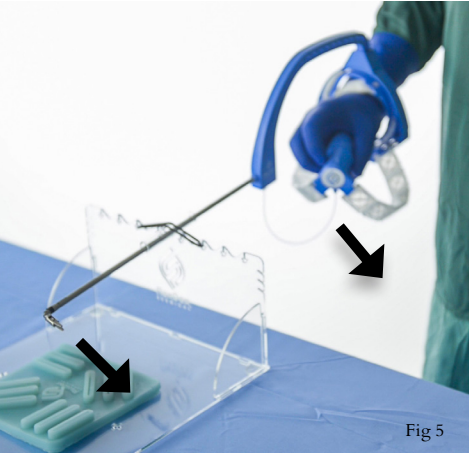

Fig 5
- Deflecting the Handle results in a corresponding deflection of the Articulating Tip (Fig 5).